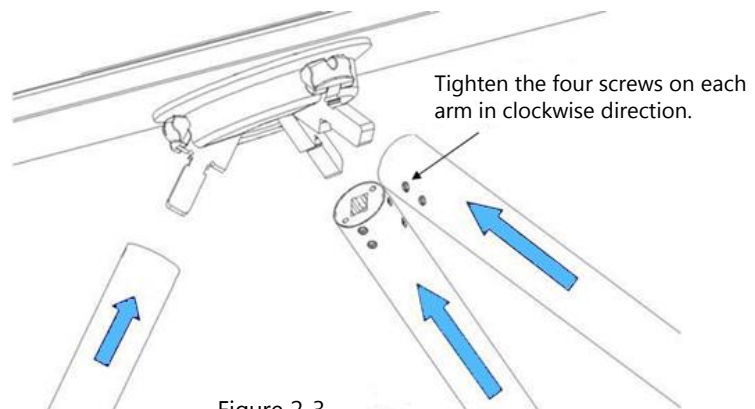

Figure 2-3
2. Insert the arms to the connection points, and use the Hex key to fasten the four countersunk screws on each arm, as shown in figure 2-3.